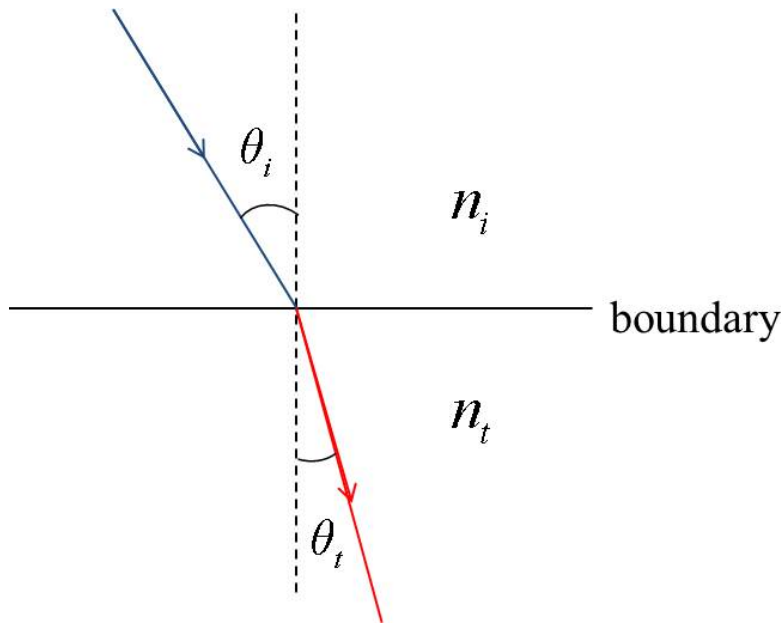

Figure 2
There are two possibilities in this scenario, where a ray of light travels across the boundary between two media: (1) the transmitted ray is pulled towards the normal to the surface if the transmitted medium has a higher index of refraction than the incident medium, or (2) the transmitted ray is pulled away from the normal to the surface if the transmitted medium has a lower index of refraction than the incident medium. One example of the refraction process for a ray is shown in Figure 2. The relationship between these quantities is captured in Snell's Law (Eq. 3).